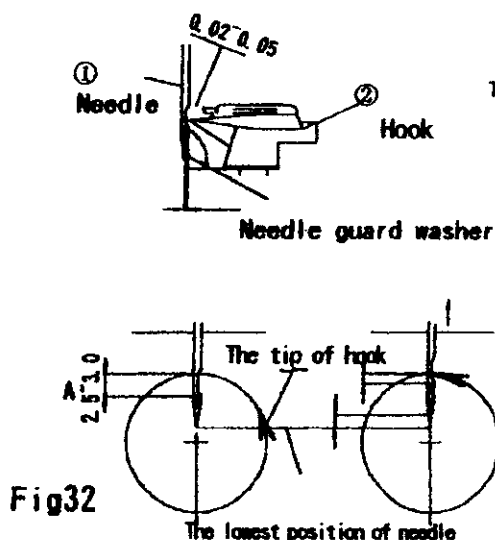

Fig32
The quality of stitches is based on the synchronous position of the tip of hook and the needles as fig. 32, 32 shows.
- 1) To lose the needle bar to make the lowest of needle position. The distance is 3.0 mm between the upper side of needle hole and the tip of hook, and tighten the needle bar, as fig 32 (A)